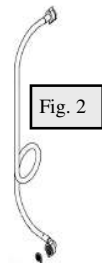

Fig. 2
- Use 5' flexible water supplied hose (Fig. 2)